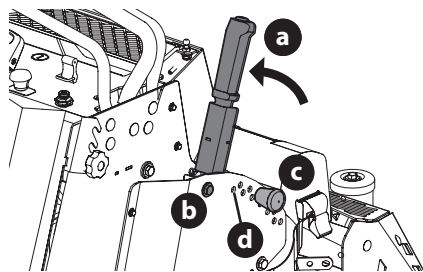

Fig. 1
2. Use the deck lift handle (a) to raise the deck to the transport lock position (b) (highest adjustment setting) and insert the clevis pin (c) into the highest mowing setting (d) to secure the deck lift handle in place (Fig. 1).